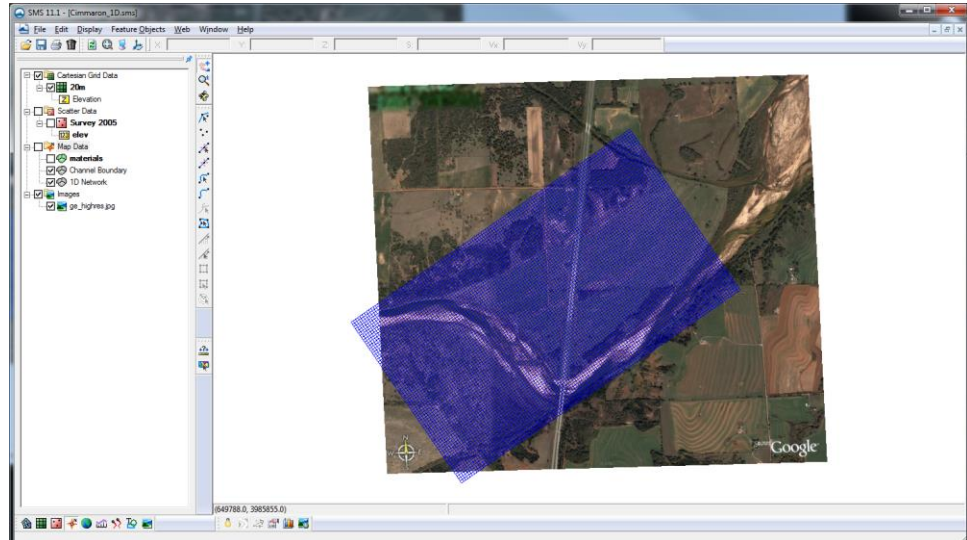

Figure 1 View of Map and Image Data
2. Select the file “Cimmaron_1D.sms” in the *data files* folder for this tutorial and click **Open**. This will load an SMS project with a background image, elevation data, the 20m grid created in the 2D tutorial, and three map coverages, as seen in Figure 1 below.